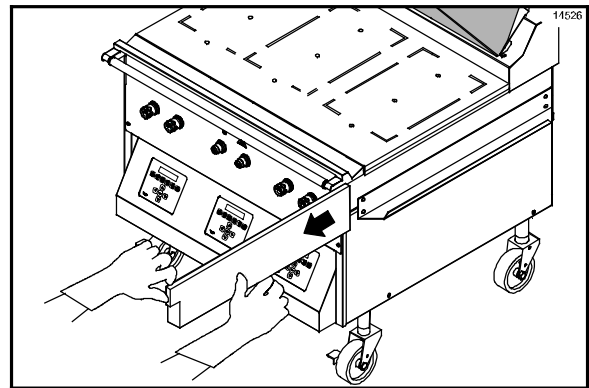

Figure 70
- 42. Remove and empty the grease pans. (See Figure 70.)